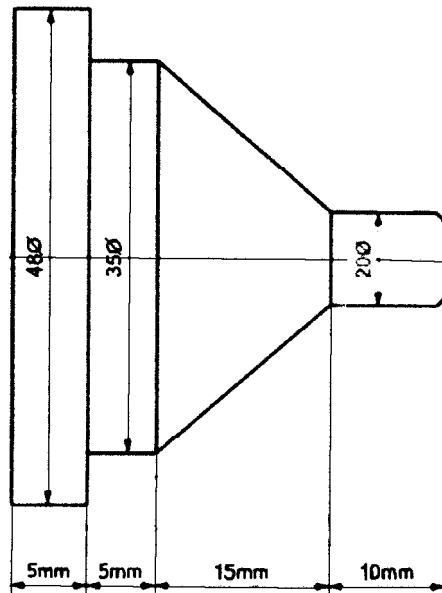

Fig. No. 2
- c) Write a part program for the component shown in Fig. No. 2. on a CNC lathe.